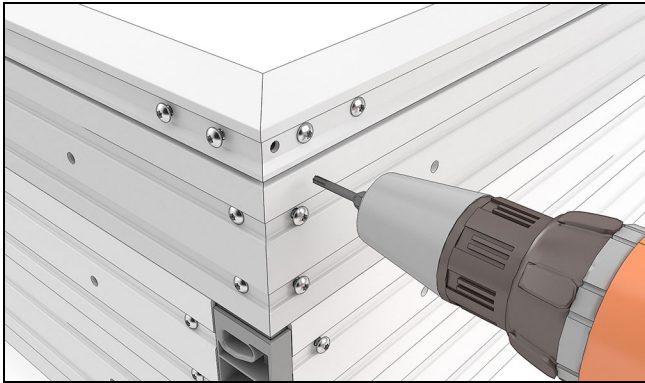

Figure 47
6. Assemble the other jamb to the head jamb assembly. See Figure 47.